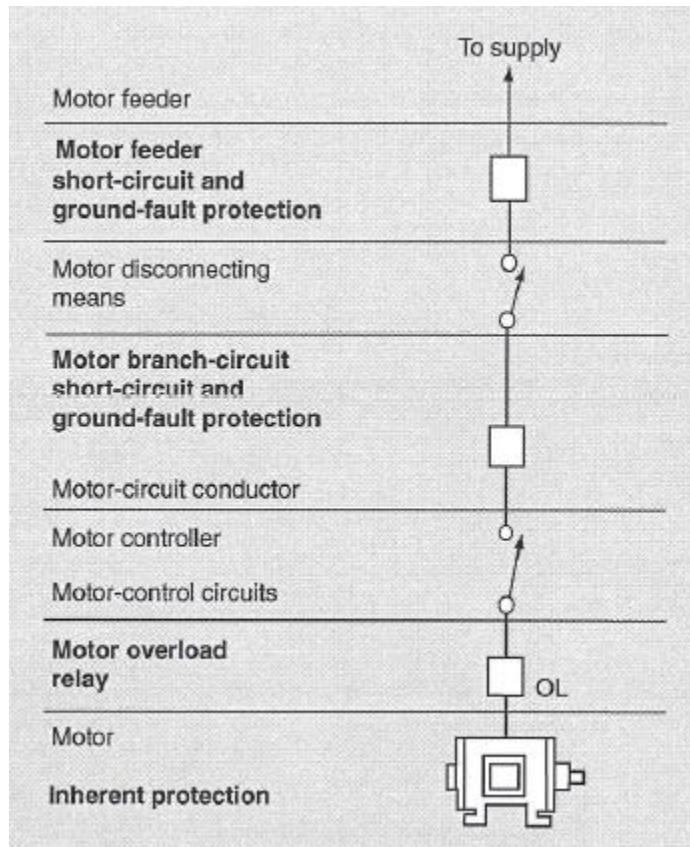

Figure 6.1: Motor Circuit Protective Devices
- 6-3 Figure 6.1 is a simple diagram of a typical motor circuit. The first protective device is the motor feeder protection. The size of this protective device depends on the number of motors to be connected and their sizes.
- 6-22 Looking back to Figure 6.1, you can see that the next overcurrent protective device is the motor branch-circuit overcurrent protection. This overcurrent protective device may be either a circuit breaker or a fuse. The maximum allowable fuse rating is determined from Table 430-52 in the NEC. The motor's full-load current is multiplied by the percentage listed in the table. The percentage is based on the type of motor and its code letter, and on the kind of fuse to be installed.
- 6-25 The motor-running overcurrent protective device is usually an overload relay. This device is shown just above the motor in Figure 6.1. The motor overload relay (OL) opens the motor circuit on overloads. Some overload relays do not protect the motor against short circuits. Section 430-40 of the NEC requires branch-circuit fuses or circuit breakers in such cases.
- 6-29 The last of the protective devices shown in Figure 6.1 is the *inherent thermal protection*, which senses motor temperature. It is part of the motor's *control* circuit rather than the *power* circuit. Motor current does not flow through this device.